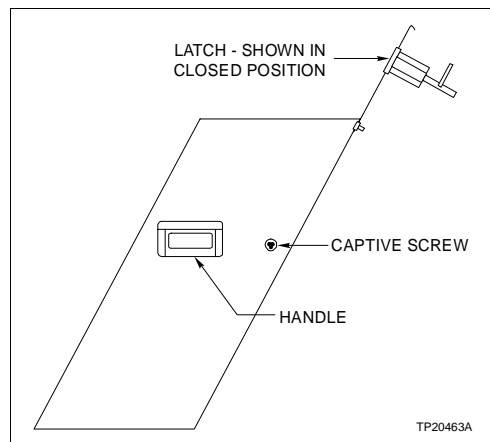

Figure PR68-1. Pedestal Cover Installation
1. Be sure the latches are in the open position ($\frac{1}{2}$ -turn from closed position as shown in Fig. PR68-1).